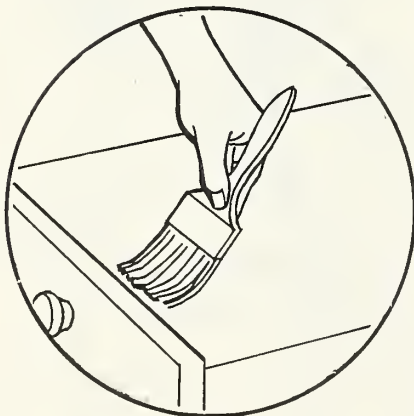

Fig. 6
5. Do drawers stick only in damp weather? When weather is dry, and drawers are not sticking, coat the unfinished wood with a penetrating sealer or with wax. (Fig. 6)